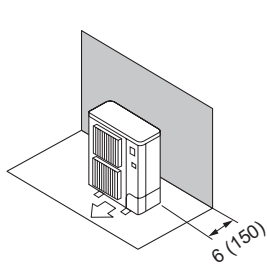

Fig. 2-6
- ① Obstacles at rear (Fig. 2-6)